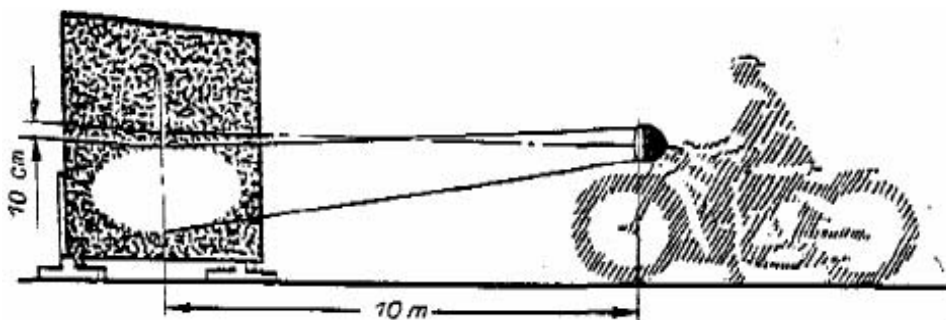

Fig 31
1. The motorcycle running at idle is set up on flat ground facing a white or light colored wall at a distance of 10 m from the headlight glass (fig. 31).